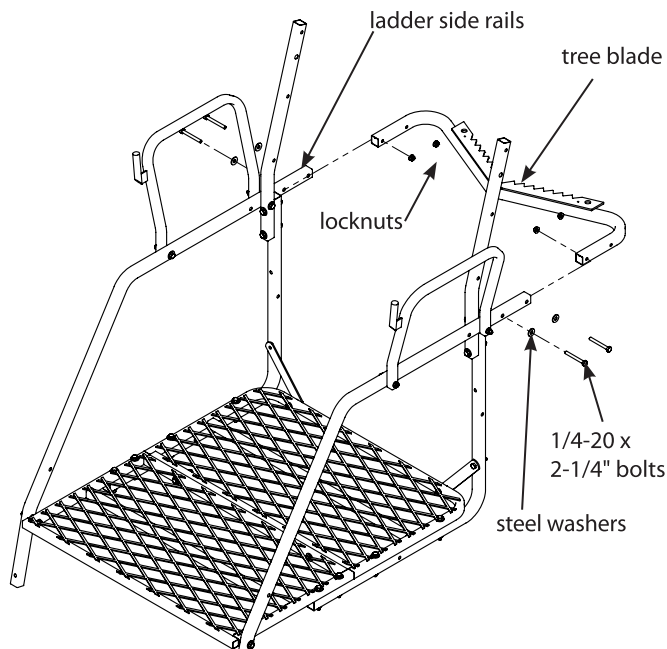

Figure 4
6. Attach the tree blade (410090) to the ladder side rails using (4) provided 1/4-20 x 2-1/4" bolts, locknuts and steel washers. **SEE FIGURE 4.**